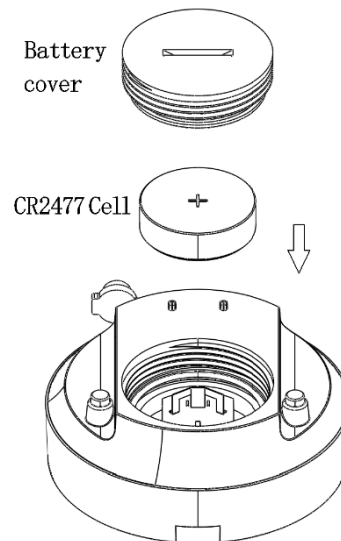

Figure 12
- 1) Insert the CR2477 battery into the water sensor (refer to Figure 12). The sensor will automatically pair and connect with the central controller.
- 3) Insert the CR20477 battery into the wireless water sensor to be paired (refer to Figure 12). The sensor's indicator light will flash twice and then turn off. After two beeps, the corresponding digital light on the central controller will remain on, confirming successful pairing.